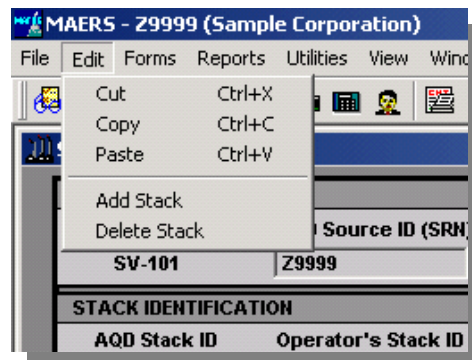

Figure 7-2: The Edit Menu
2. Choose **Edit** on the menu bar and select **Add Stack** (Figure 7-2).